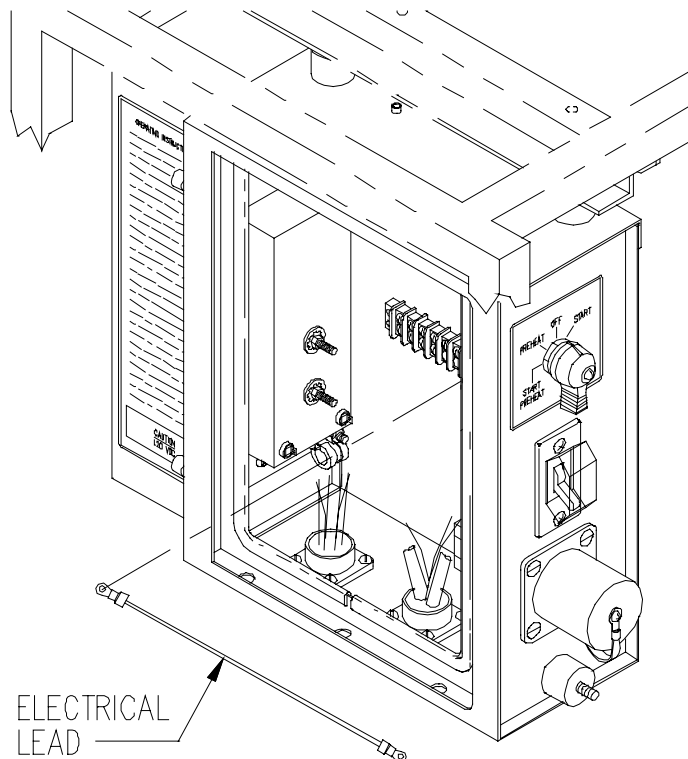

Figure 4-44. Electrical Lead Wire(s) (Typical)
- (1) Shut down generator set.
- (2) Release instrument panel by turning fastener, open instrument panel slowly.
- (3) Tag and disconnect control panel electrical lead (Figure 4-44).
- (4) Set multimeter for ohms and check wire for continuity.
- (5) Replace defective wires and electrical connectors. Refer to Appendix G, Table G-1 (MEP-531A) or Table G-2 (MEP-501A), for instructions on how to make each electrical lead.
- (6) Connect control panel electrical lead as tagged. Remove tags.
- (7) Close and secure instrument panel.
- (3) Tag and disconnect control panel electrical lead (Figure 4-44) from terminals.
- (1) Connect control panel electrical lead (Figure 4-44) as tagged. Remove tags.
- (2) Close and secure instrument panel.